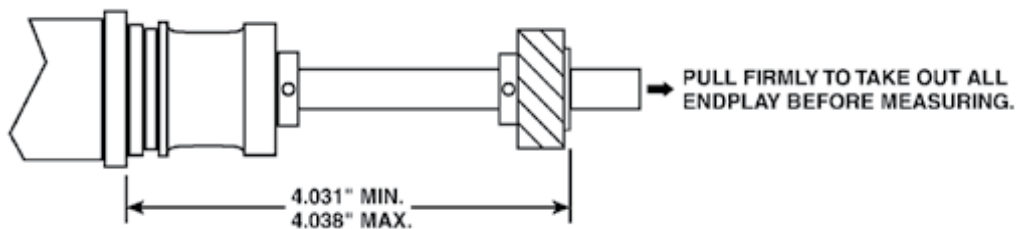

Fig. 1
- STEP 6:** Pull distributor shaft out of distributor housing to eliminate endplay (see Fig. 1).
- STEP 7:** Check location of distributor gear on distributor shaft (see Fig. 1). If it is not in the correct location, use a press to move the gear to the correct location.
NOTE: It is important that the dimensions called out in Figure 1 are maintained while drilling.
- STEP 9:** Insert roll pin and check dimensions (see Fig. 1).